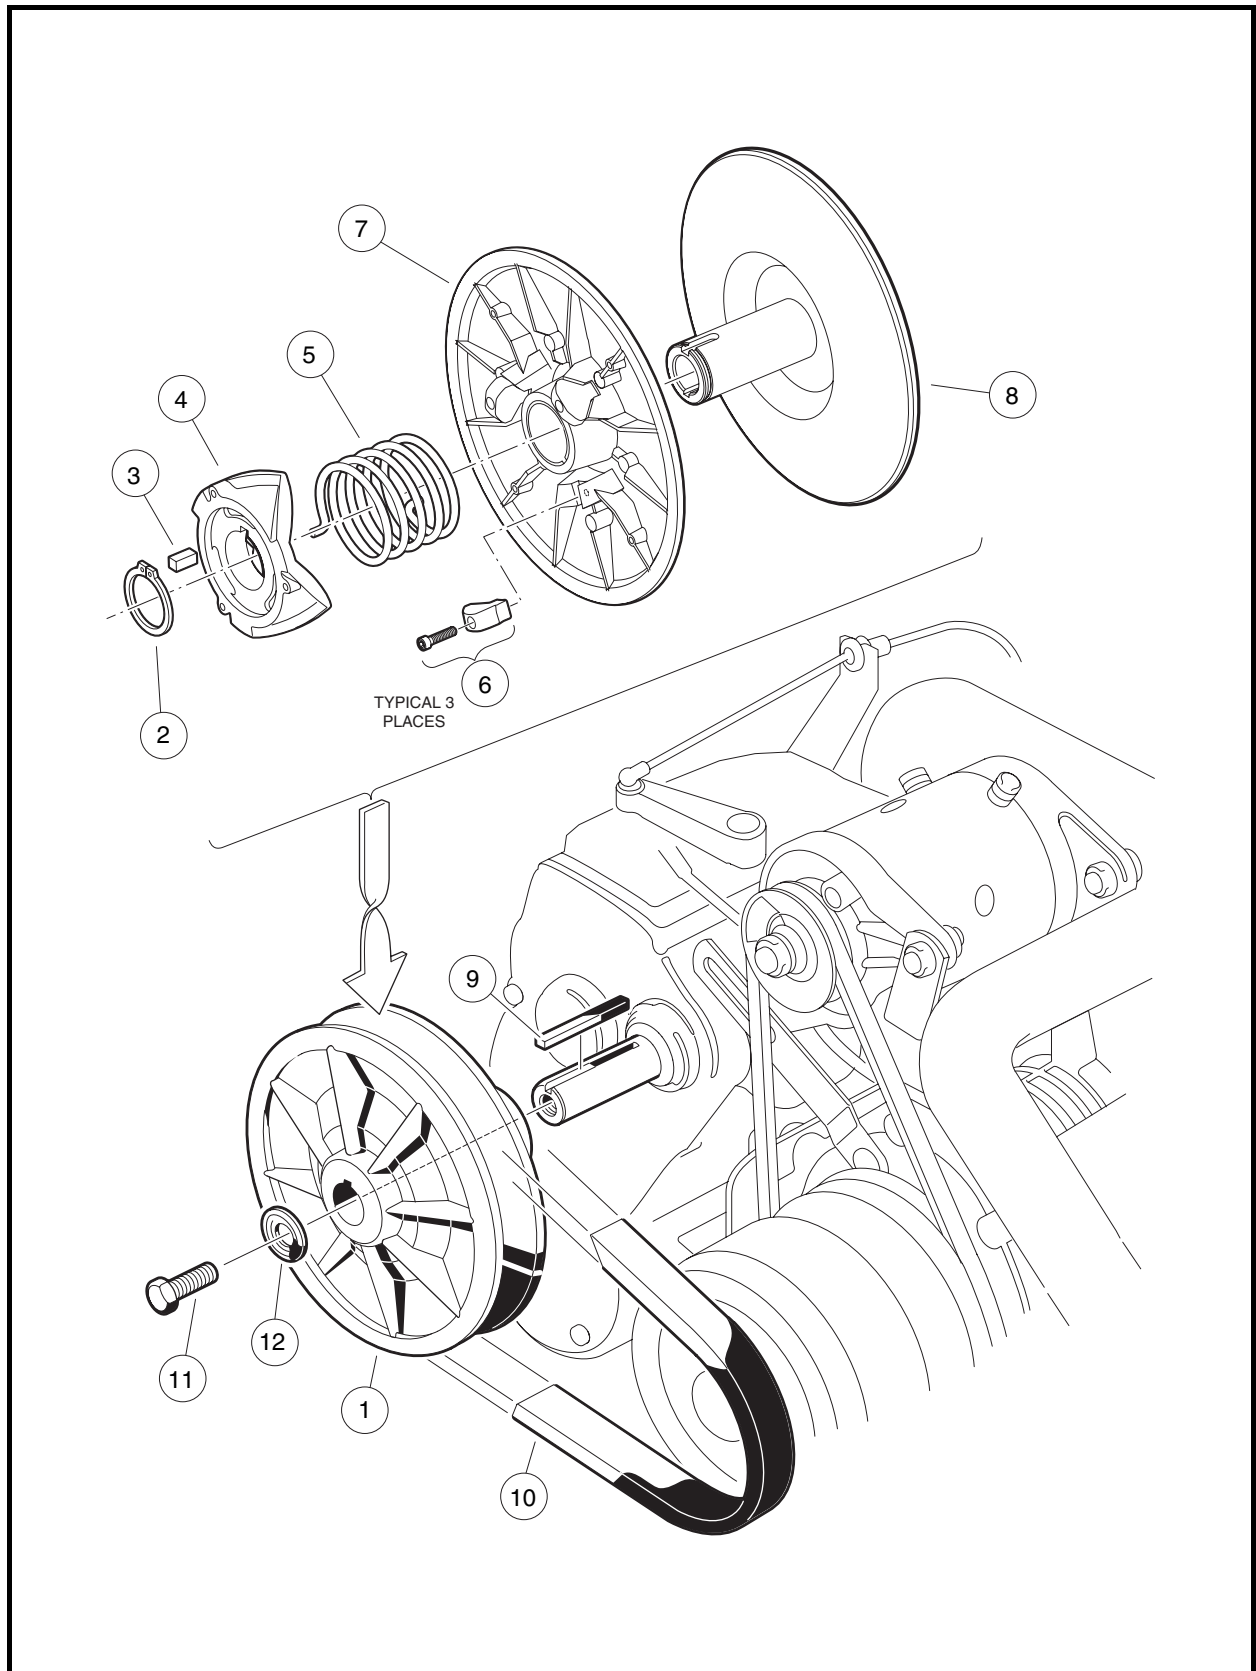
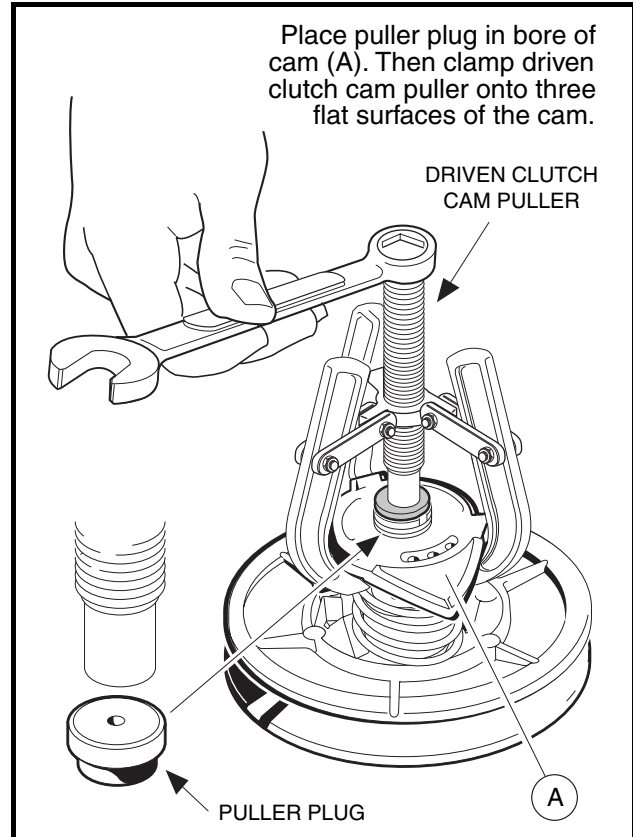

Figure 17-16 Driven Clutch Assembly
Figure 17-18 Driven Clutch Disassembly
5. Remove the bolt (11) and mounting washer (12) from the clutch shaft (**Figure 17-16, Page 17-14**).
7. Leave the key (9) in the keyway (**Figure 17-16, Page 17-14**).
2. Insert a puller plug (CCI P/N 1014507) (**Figure 17-18, Page 17-15**) into the shaft bore and use a driven clutch cam puller (CCI P/N 1014508) to remove the cam (4) from the fixed face shaft (8). Retain the key (3) (**Figure 17-16, Page 17-14**).
3. Remove the spring (5) (**Figure 17-16, Page 17-14**).
4. Slide the moveable face (7) off the fixed face shaft (8) (**Figure 17-16, Page 17-14**).
1. Inspect the cam (4) for excessive wear. Replace it if necessary (**Figure 17-16, Page 17-14**).
2. Inspect the drive buttons (6) for excessive wear. Replace if necessary. To remove the drive buttons, remove the socket-head cap screws and then the buttons.
1. Place the three drive buttons (6) in position. Apply one drop of Loctite® 222 to each of the socket head cap screws and then install and tighten them to 8 in-lb (0.9 N·m) (**Figure 17-16, Page 17-14**).
2. Slide the moveable face assembly (7) onto the fixed face shaft (8).
3. Place the end of the spring (5) into hole in the moveable face assembly.
4. Install the key (3) into the keyway of the fixed face assembly (8) shaft.
5. Holding the cam (4) in position for assembly on the shaft, install the other end of the spring (5) into the center spring hole of the cam. Rotate the cam until the keyway is aligned with the key (3) on the fixed face assembly, and then start the cam onto the shaft approximately 1/4 to 3/8-inch (6.3 to 9.5-mm).
- 5.1.3. Install the retaining ring (2) (**Figure 17-16, Page 17-14**). **See following NOTE.**
1. To install the driven clutch, reverse the removal procedure. Make sure that the washer (12) is mounted with the flat portion of the washer against the driven clutch as shown (**Figure 17-16, Page 17-14**). Secure with a *new* bolt (11). **See following NOTE.**